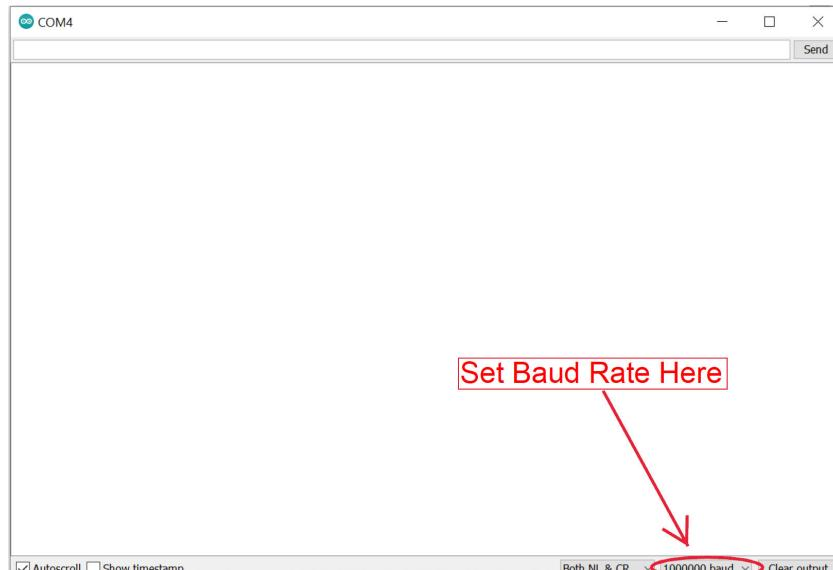

Figure 5: Select Baud Rate
11. Set baud rate to 1M at the bottom of the Serial Monitor window as shown in Fig. 5